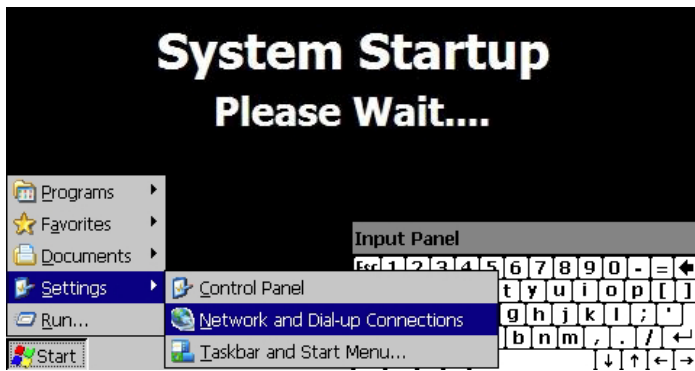

Fig. 126: Window CE - Select Network Connections
- Next, press the Windows Start button and select ‘Settings’ and then ‘Network and Dial-up Connections’ to show the connections window (Fig. 126).